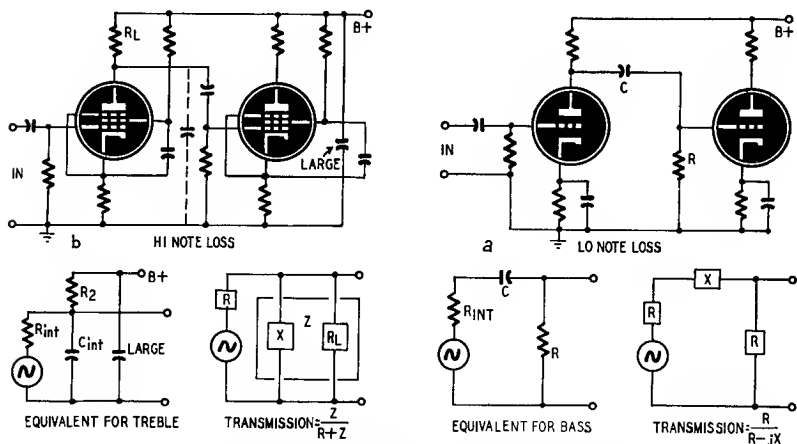

Fig 409—Frequency limitations in simple amplifiers.
One of the serious limiters of low-frequency transmission is the coupling capacitor of an amplifier. See Fig. 409. The capacitance (C) is in series with